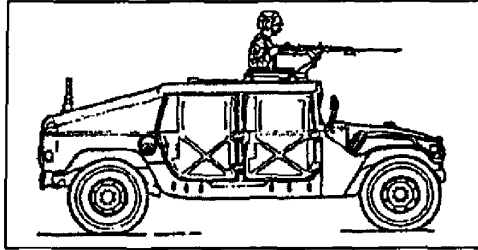

Figure 071-313-3454-5. Standing position (HMMWV mount)
- a. Sight alignment. Center the front sight post in the peep sight (figure 071-313-3454-6).